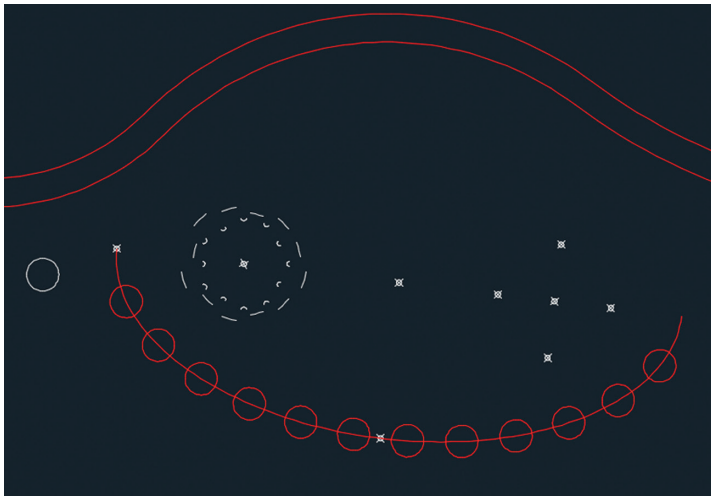

FIGURE 5.11 Dividing an elliptical arc with blocks
9. Type 13 (for the number of segments) and press Enter. Twelve "shrubs" appear along the elliptical arc (see Figure 5.11).